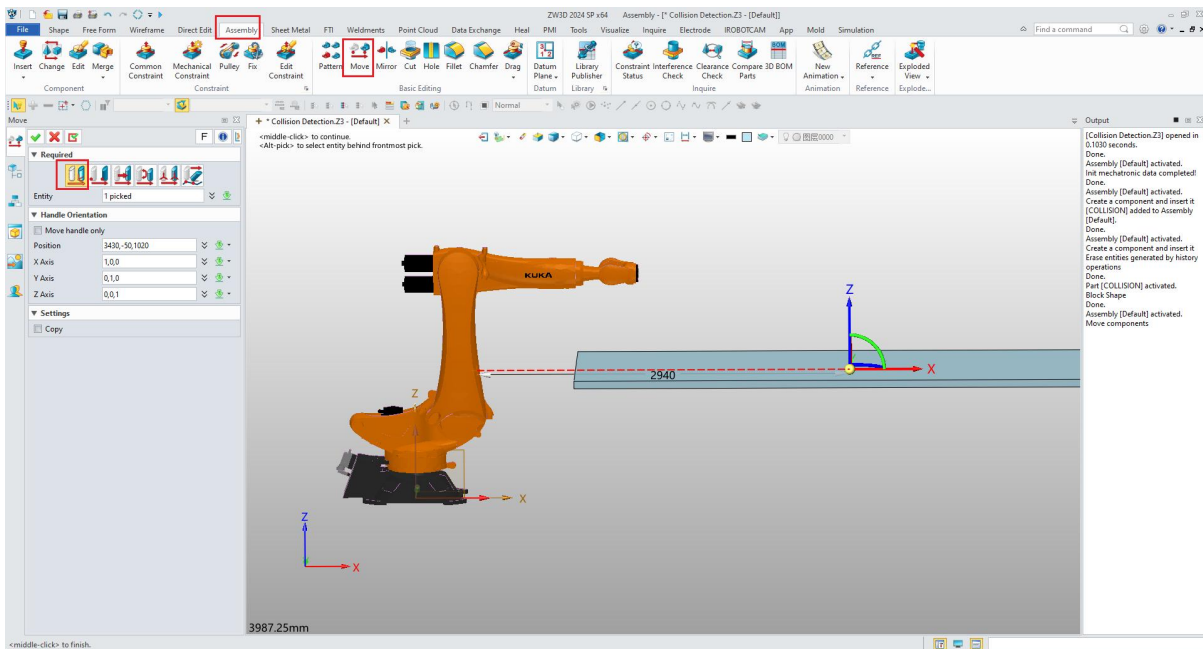

Figure 11-10: Adjust the hexahedron
- ✧ Adjust the XYZ axes to move the hexahedron to the desired position within the assembly. (Figure 11-10)